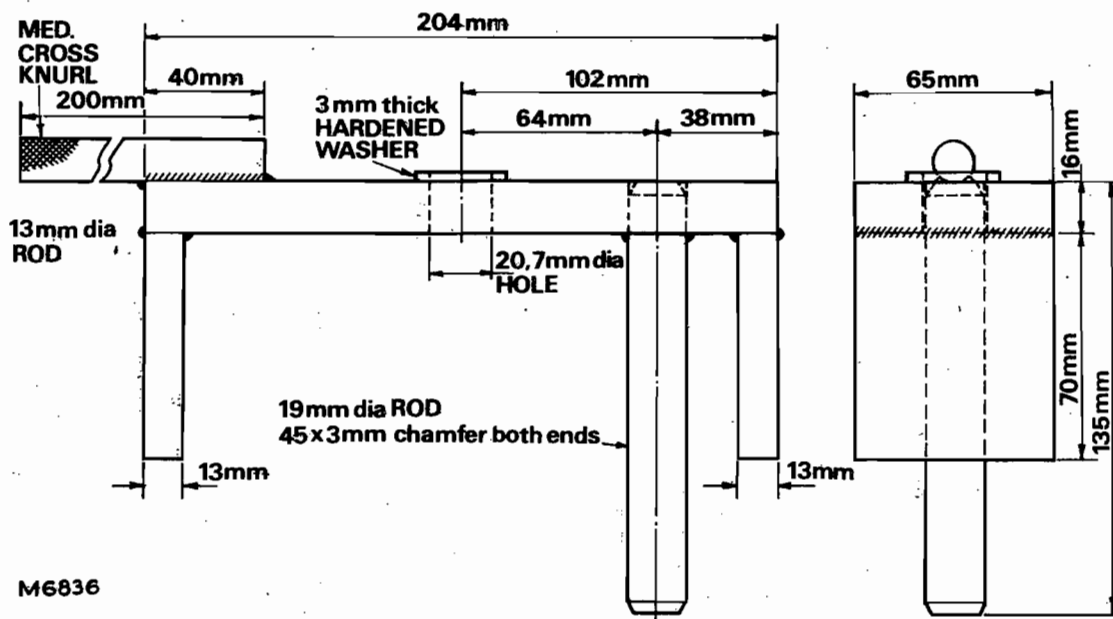

FIG. 4 CAV ALTERNATOR ROTOR EXTRACTOR
2. Remove seal ring from pump drive gear, Fig. 4 and fill the groove with grease. Re-position the seal ring ensuring that the lugs overlap as shown. Centralise the ring, which will be held in position by the grease long enough to fit the gearbox.